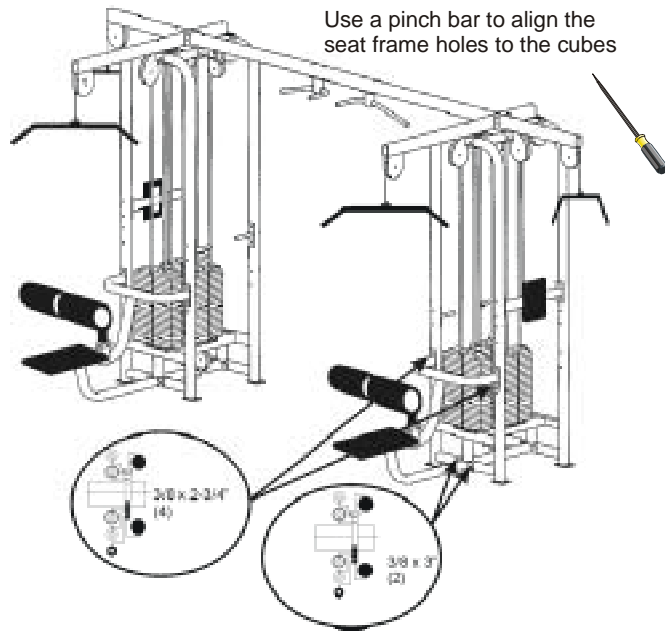
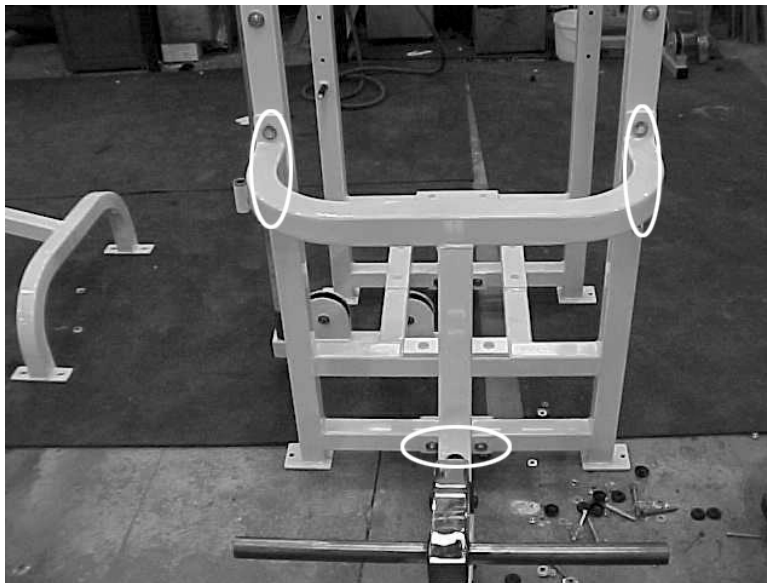

Figure 13. Mount the benches to the frame.
Figure 14. Bolt locations on the frame.
- Mount the lat benches to the frame.** Using the bolts specified in Figure 14 and a  $\frac{9}{16}$ " socket and combination wrenches, mount the benches as shown in Figures 13 and 14.